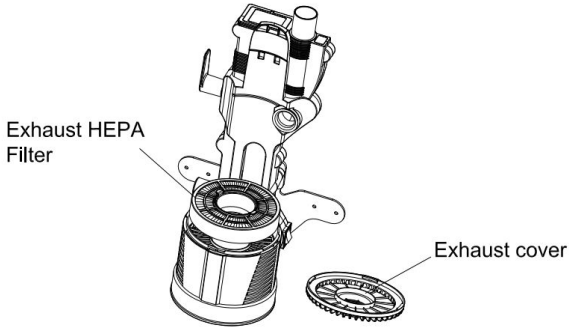

Fig 13
1. Open the exhaust cover by rotating it counter clockwise. (Fig. 13)
2. Pull the exhaust HEPA out of the unit. (Fig. 13)